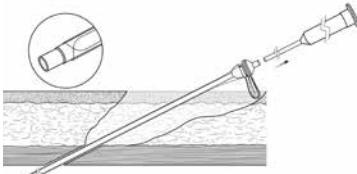

Figure 14
1. Remove the scope from the cannula (Figure 14).